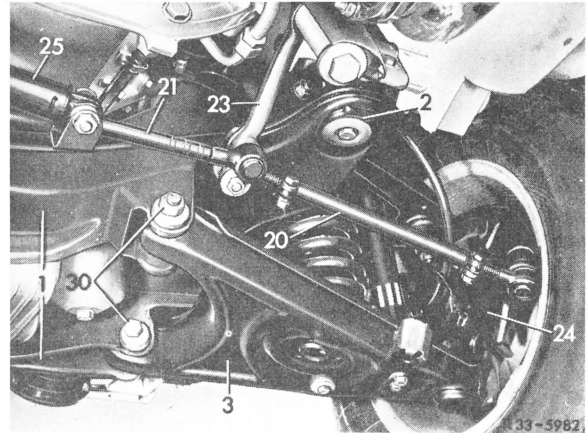

Fig. 9
13 Support front axle carrier with pit lift and cradle (43) with supplementary member (43a) (Fig.9).
14 Loosen hex. bolts of four rubber mount (2) for attaching front axle carrier to frame floor (Fig. 9).